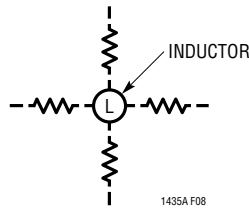

Figure 13. Allowable Inductor/ $R_{SENSE}$  Layout Orientations
Because of the sensitivity of the LTC1436A/LTC1437A current comparator when operating close to the minimum on-time limit, it is important to prevent stray magnetic flux generated by the inductor from inducing noise on the current sense resistor, which may occur when axial type cores are used. By orienting the sense resistor on the radial axis of the inductor (see Figure 13), this noise will be minimized.
9. If operating close to the minimum on-time limit, is the sense resistor oriented on the radial axis of the inductor? See Figure 13.